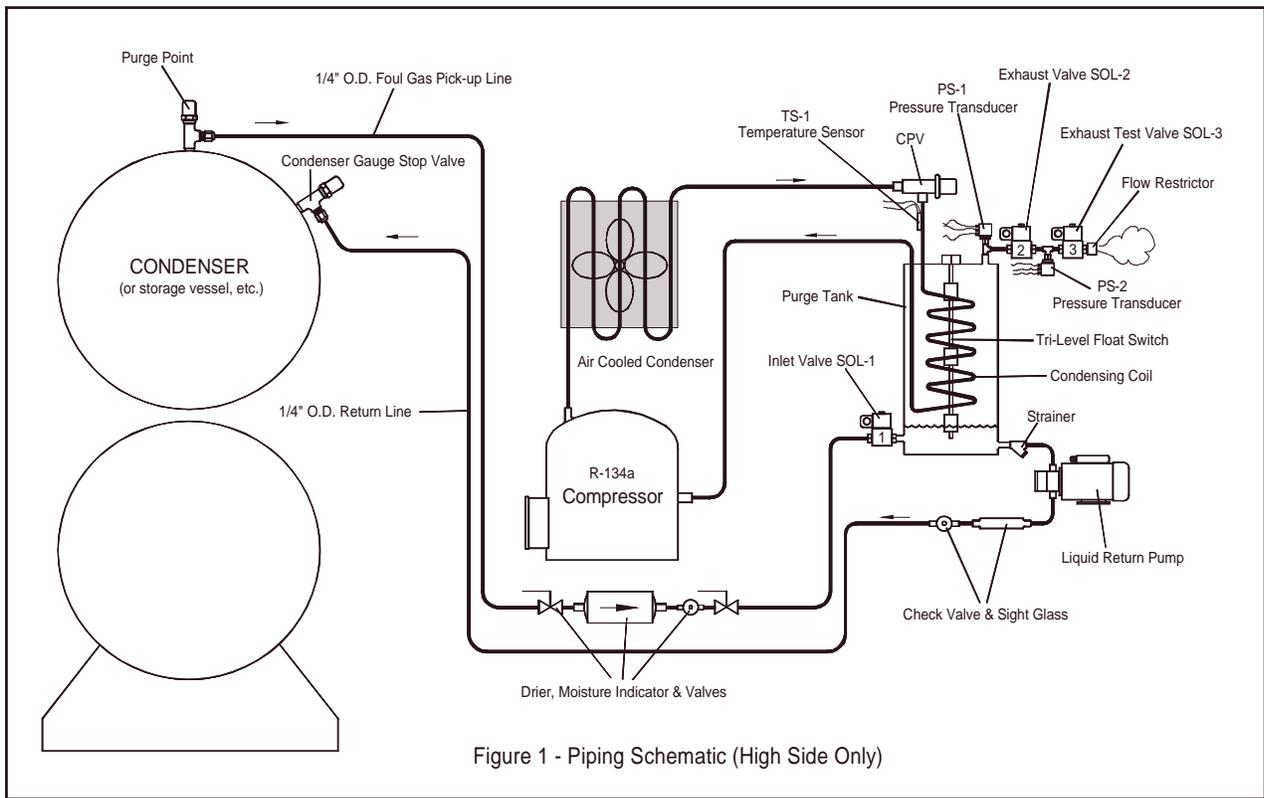
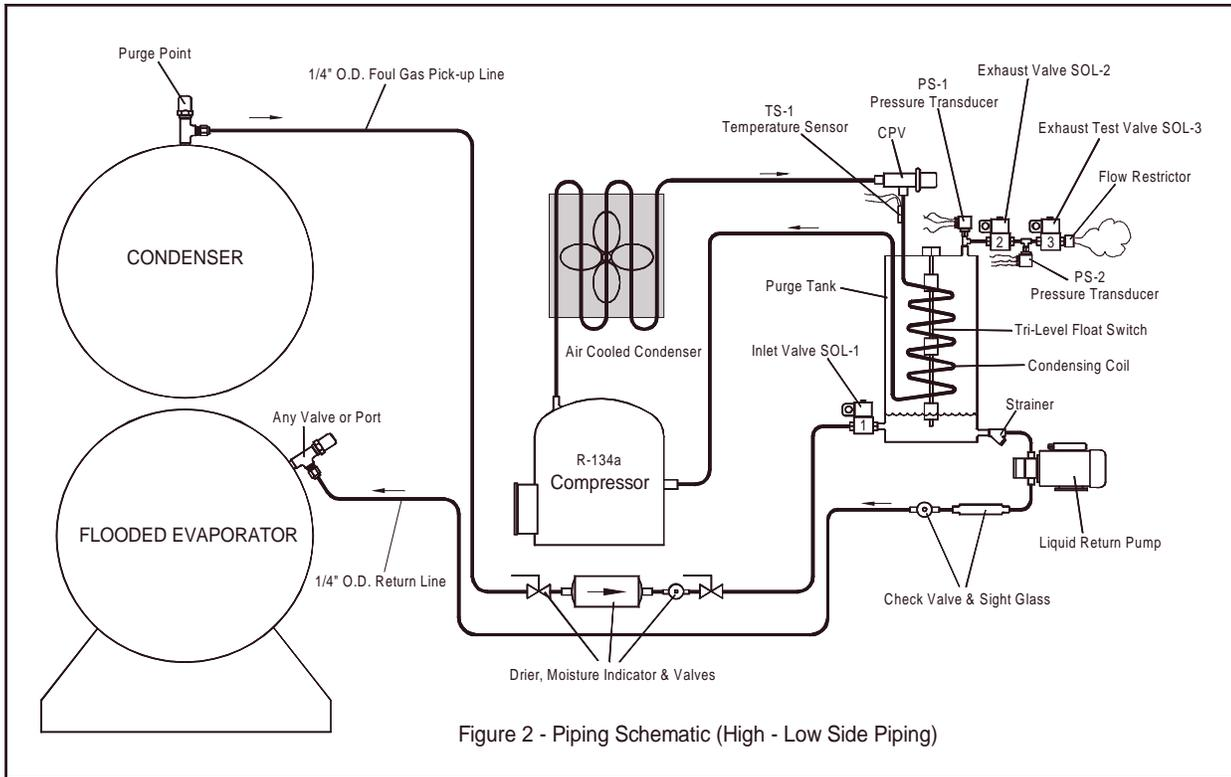

Figure 1 – Piping Schematic (High Side or Storage Vessel ONLY)
Figure 2 – Piping Schematic (High – Low Side Piping)
Figures 1 & 2 illustrate two distinct piping methods. Before you begin piping the HPP-4A-C3 Purge Unit you **MUST** first determine which method is correct for your application. In general; if you are installing the purge unit on a system utilizing a positive displacement compressor such as a **reciprocating compressor** you **MUST** plum the purge unit as illustrated in **figure 1 (High Side Only piping)**. This would apply to all **direct expansion (DX)** systems. If the purger is being used to purge a **refrigerant storage vessel** then it will have to be installed as in figure 1.
If the HPP-4A-C3 purger is being installed on a **centrifugal chiller** or any system with a **flooded evaporator** you may choose either of the two piping methods illustrated in figures 1 & 2.
Piping Hook-up (High Side Only Connection) See Figure 1
When applying the **Model HPP-4A-C3** Purge Unit to a ***Direct Expansion (DX) system*** or ***refrigerant storage vessel*** both the foul gas pick-up and liquid refrigerant return lines **MUST** be connected to the ***chiller condenser*** (storage vessel) as illustrated in Figure 1.
- 1) Using ¼" O.D. copper tubing (maximum 30 feet length) plum from the ***foul gas pick-up point*** on the chiller condenser (or storage vessel) to ***Inlet Solenoid Valve SOL-1*** on the HPP-4A-C3 unit. Install ***filter-drier, ball valves*** and ***moisture indicator*** from Installation Kit in the line as illustrated in Figure 1.
- 2) Using ¼" O.D. copper tubing (maximum 30 feet length) plum from the outlet port of the ***Liquid Return Pump*** to any point on the chiller condenser (or storage vessel) ***other than the foul gas pick-up point***. Typically this line is teed into the condenser pressure gauge line. Install ***moisture indicator*** from Installation Kit as illustrated in Figure 1.
Piping Hook-up (High – Low Side Connection) See Figure 2
When applying the HPP-4A-C3 Purge Unit to a ***flooded evaporator*** system, such as a centrifugal chiller, the ***liquid refrigerant line*** may be routed to the evaporator as illustrated in Figure 2. However, either of the two piping methods illustrated in Figures 1 & 2 may be used.